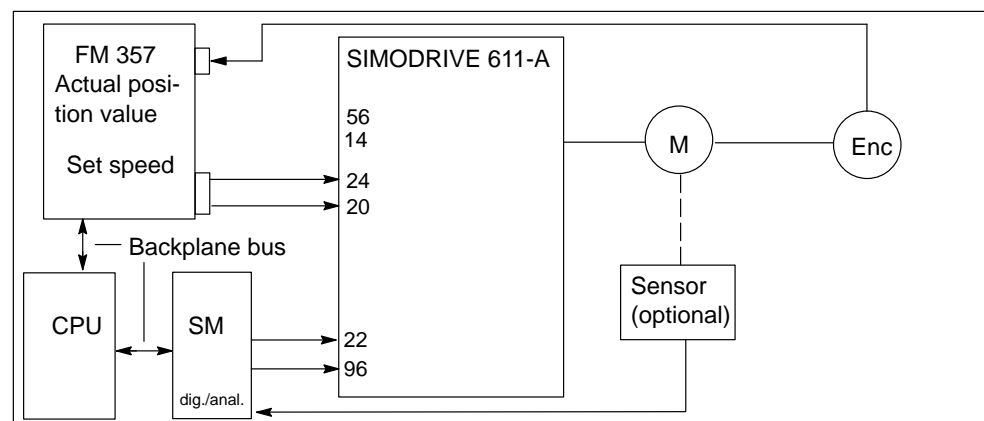

Figure 9-23 Hardware connections between FM 357, signal module and SIMODRIVE 611-A (FDD)
Figure 9-23 shows the hardware connections between the FM357, signal module (SM) and SIMODRIVE 611-A (FDD).